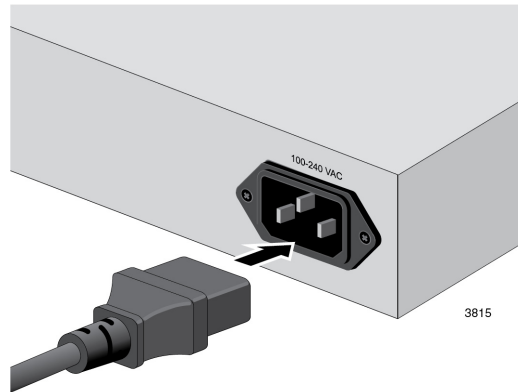

Figure 13. Plugging in the AC Power Cord
1. Plug the power cord into the AC power connector on the back of the switch, as shown in Figure 13.